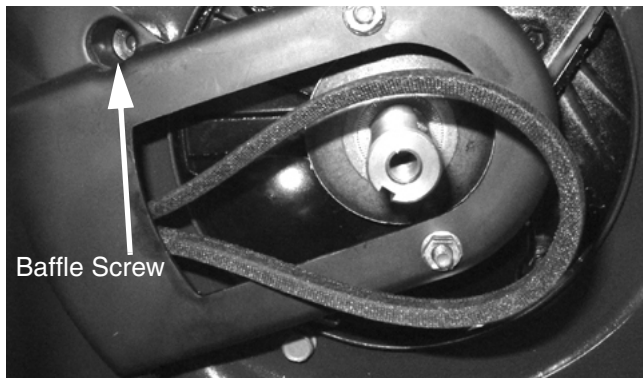

FIGURE 2
5. Remove the self-tapping screw that secures the deck baffle to the deck. See Figure 2.